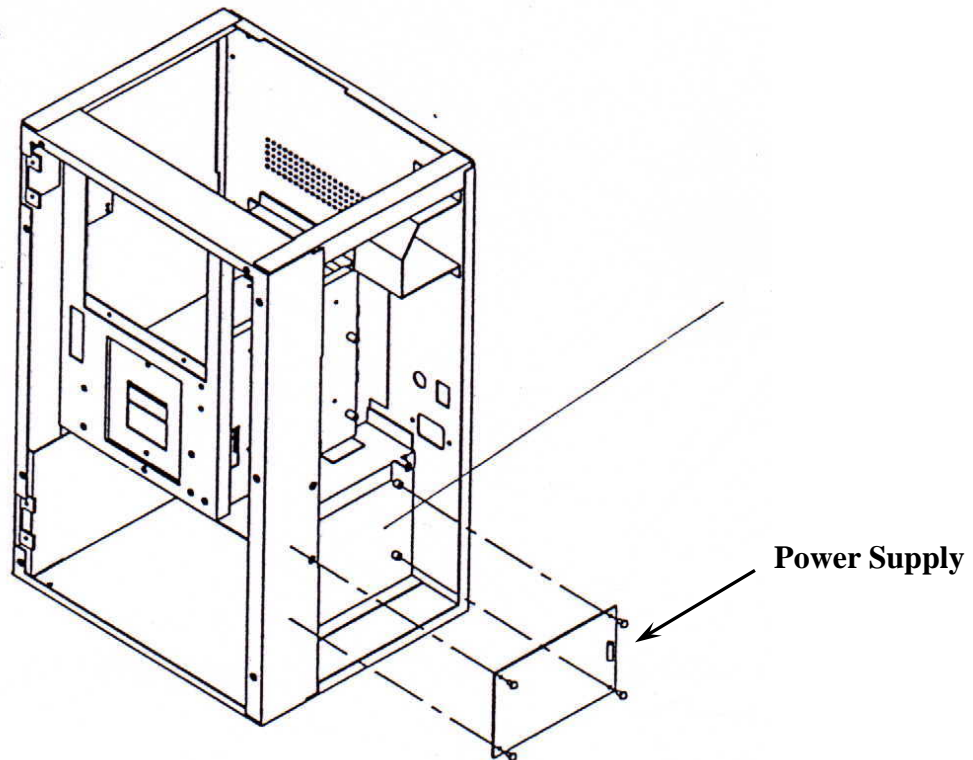

Figure 3-8. Power Supply Replacement.
4. Remove the four screws on the power supply (Figure 3-8).
2. Fasten the four screws on the power supply (Figure 3-8).